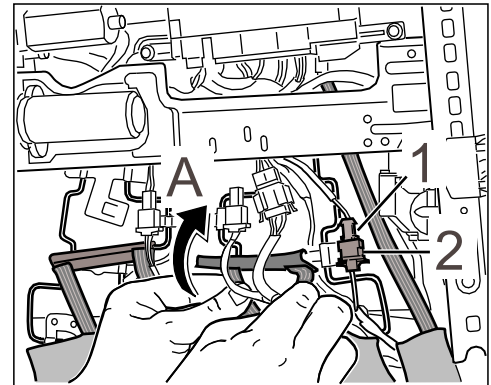

Figure 6
- 4.2 Clip the socket of the ground strap (⇒ *Figure 6 -Item 1-*) into the connector bracket of the rear seat suspension and connect to the connector for the side airbag ground strap (⇒ *Figure 6 -Item 2-*).
- 4.4 Engage the right tensioning strap for the backrest cover (⇒ *Figure 6 -Arrow A-*).